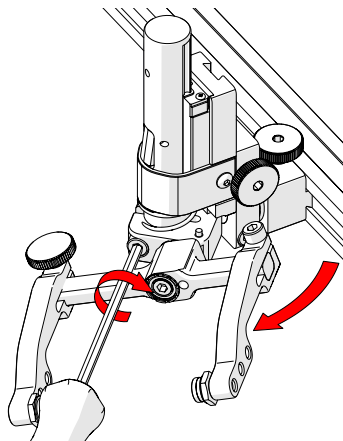

Fig. 100 - Rotate and tighten
3. Tighten the transverse adjustment screw (*Fig. 100*).